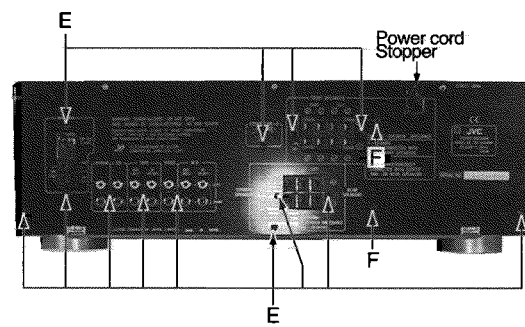

Fig.4
### (3) Rear panel remove (See Fig.4)